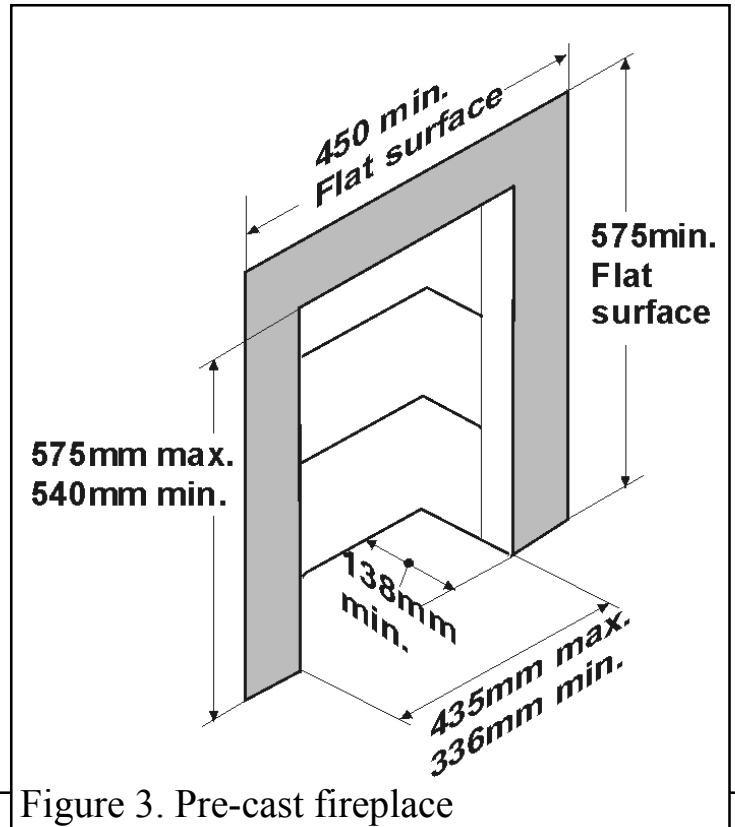

Figure 3. Pre-cast fireplace
2.9.2 To a fireplace that has a precast concrete or clay flue block system conforming to BS1289 or BS EN 1806. The appliance is suitable for installations conforming to older versions of BS1289 as well as the current edition. The flue blocks must have a minimum width not less than 63mm and a cross-sectional area not less than $13,000\text{mm}^2$. Older editions of BS1289 required a cross-sectional area of $13,000\text{mm}^2$. The current revision of the standard requires $16,500\text{mm}^2$. This appliance is suitable in both cases. The total depth of the opening measured from the finished front of the fireplace (Including plaster, surround etc.) must be **not less than 138mm**. See figure 3.